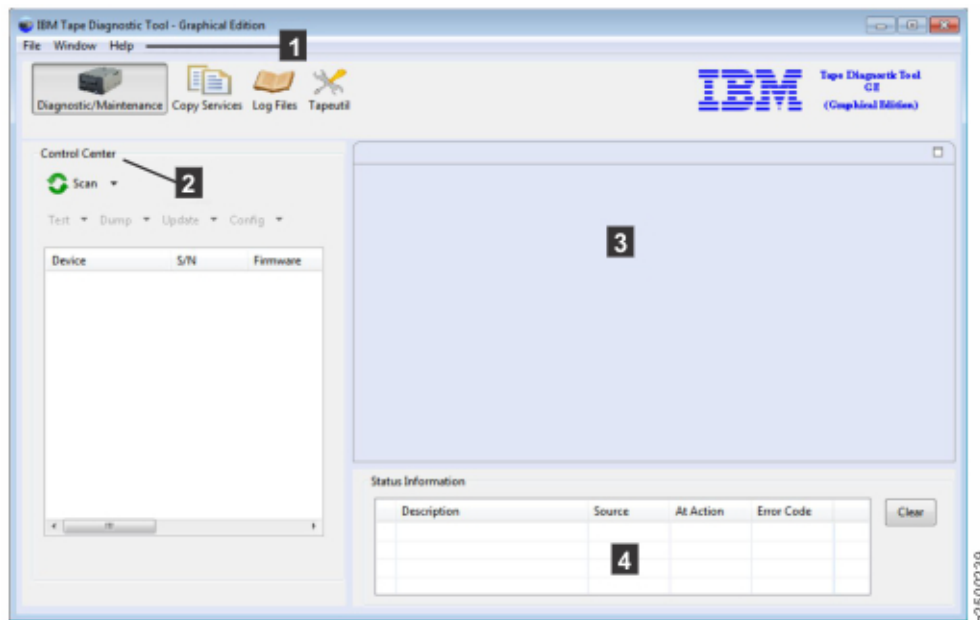

Figure 38. Graphical Edition interface
- Main menu (1 on Figure 38 on page 155)- in upper left (File, Window, Help) The following main program menu items are available:
- Control Center (2 on Figure 38 on page 155) - On left side (Device operations - Scan, Test, Dump, and Update)
- Test Lab (3 on Figure 38 on page 155) - Located from center to right side (Contains running and previously run tests)
- Status Information (4 on Figure 38 on page 155) - Located below the Test Lab (Contains summary results of tests)